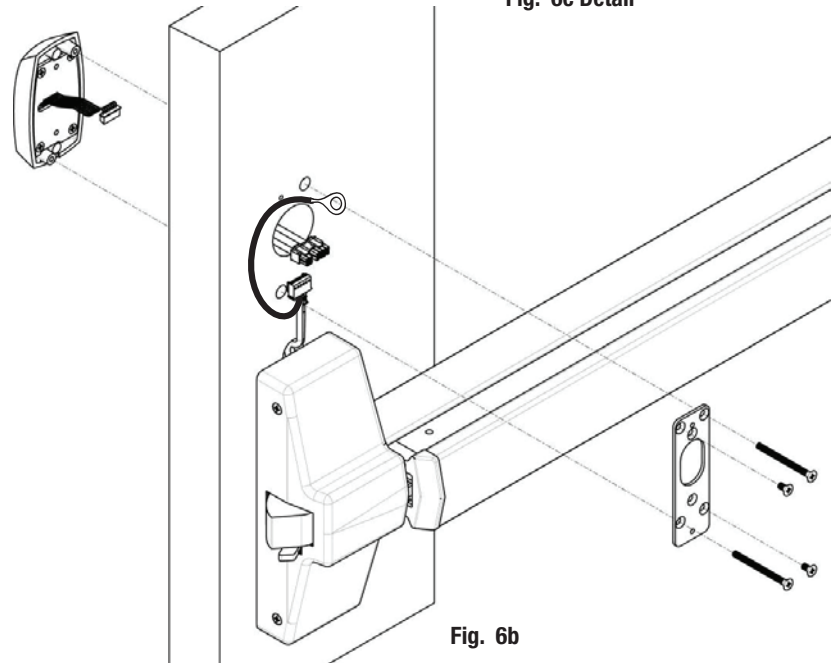

Fig. 6b
- Connect pin 5 green/yellow ground wire ring terminal to top right screw (Fig. 6b and 6c).